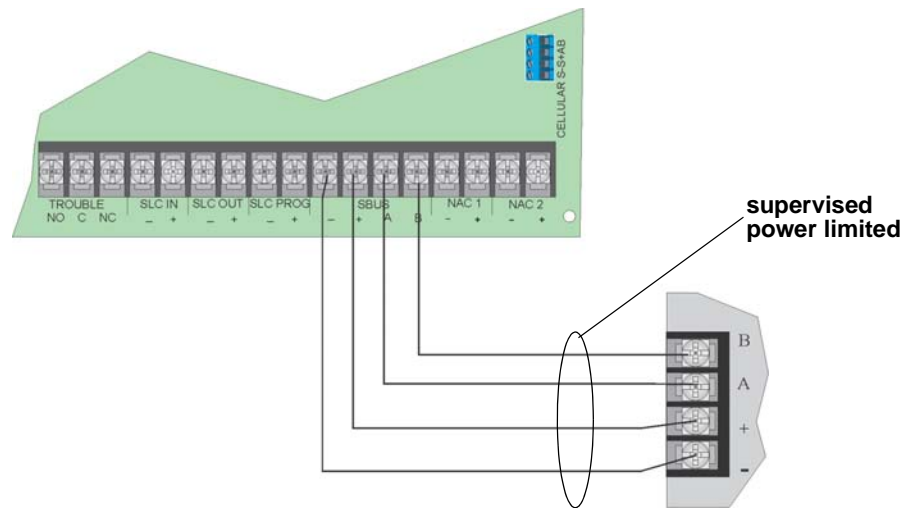

Figure 4.11 SBUS Class B Wiring
Figure 4.11 illustrates Class B configuration.
3. Wire the Annunciator board to the main control panel. See Figure 4.11.